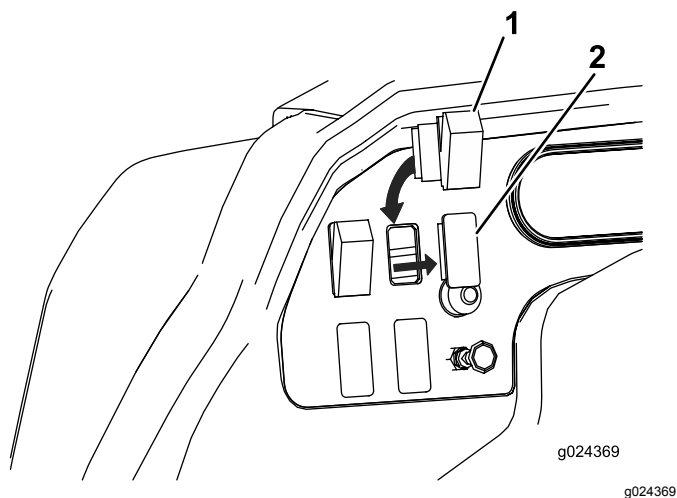
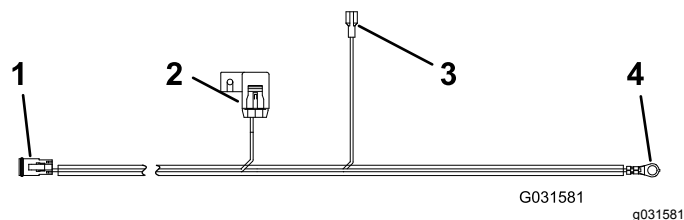

Figure 2
Figure 4
1. Route the switch harness shown in Figure 4 through the vehicle, starting at the **front**, along the existing harness.
2. Insert the switch, with the rounded side up, into the hole in the dash panel and connect the harness to the switch (Figure 2 and Figure 4).
1. Connect the fuse-block connector (Figure 4) to the fuse block of the vehicle and install a 15 A fuse.